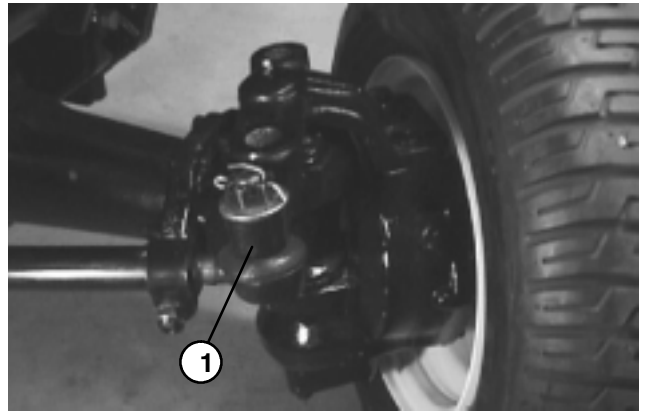

Figure 58
3. To adjust 4 wheel drive models (Fig. 58):